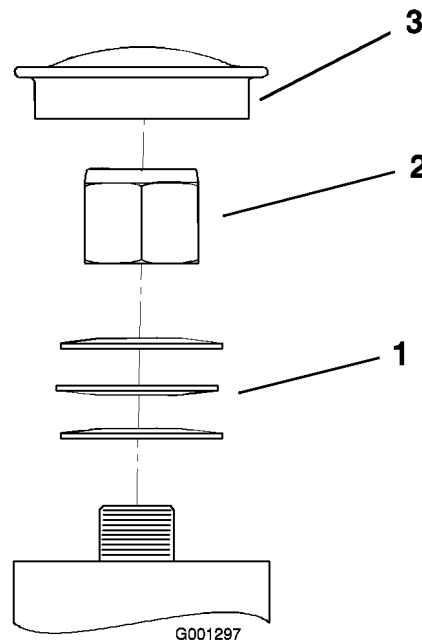

Figure 51
3. Remove the dust cap from caster and tighten lock nut (Figure 51).
4. Tighten the locknut until the spring washers are flat and then back off a 1/4 turn to properly set the pre-load on the bearings (Figure 51).
Important: Make sure spring washers are installed correctly as shown in Figure 51.
5. Install the dust cap (Figure 51).